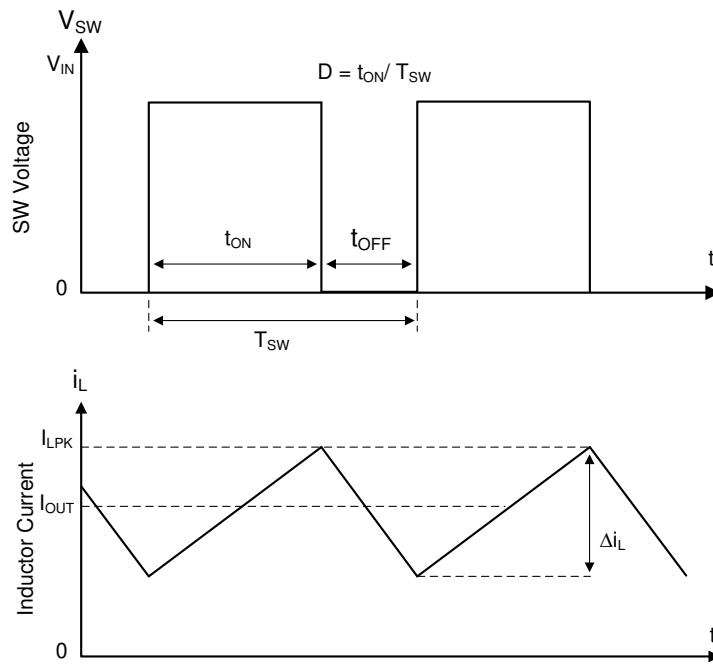

Figure 7-1. SW Node and Inductor Current Waveforms in Continuous Conduction Mode (CCM)
The following operating description of the LMR51603 refers to the Functional Block Diagram and to the waveforms in Figure 7-1. The LMR51603 is a step-down synchronous buck converter with integrated high-side (HS) and low-side (LS) switches (synchronous rectifier). The LMR51603 supplies a regulated output voltage by turning on the high-side and low-side NMOS switches with controlled duty cycle. During high-side switch ON time, the SW pin voltage swings up to approximately V_{IN} , and the inductor current, i_L , increases with a linear slope of $(V_{IN} - V_{OUT}) / L$. When the high-side switch is turned off by the control logic, the low-side switch is turned on after an anti-shoot-through dead time. Inductor current discharges through the low-side switch with a slope of $-V_{OUT} / L$. The control parameter of a buck converter is defined as Duty Cycle $D = t_{ON} / T_{SW}$, where t_{ON} is the high-side switch ON time and T_{SW} is the switching period. The converter control loop maintains a constant output voltage by adjusting the duty cycle D . In an ideal buck converter, where losses are ignored, D is proportional to the output voltage and inversely proportional to the input voltage: $D = V_{OUT} / V_{IN}$.